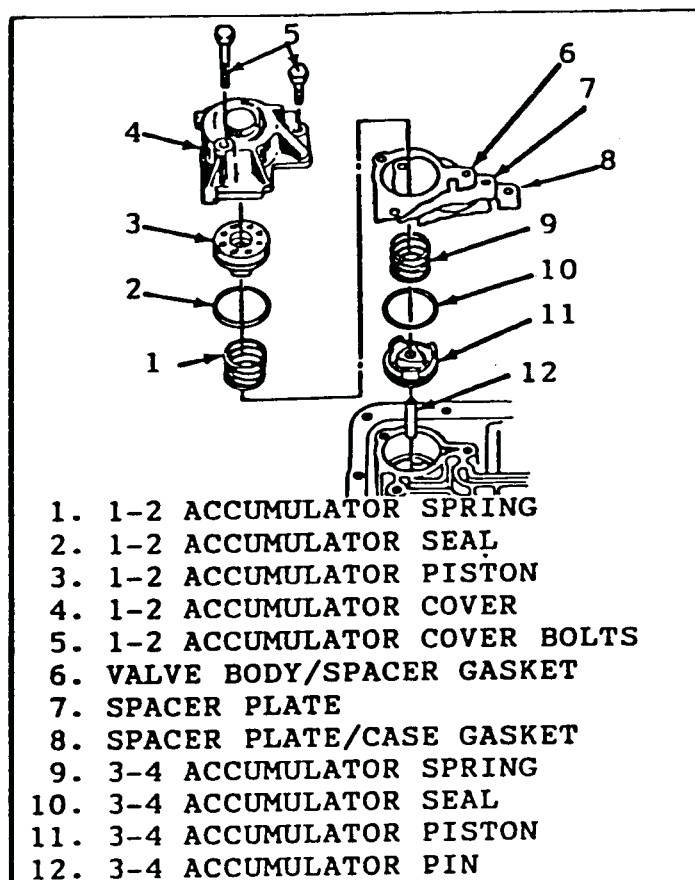

Figure 108
17. Install the 1-2 accumulator piston into the bore of the 1-2 accumulator housing, with the 3 legs of the piston facing you as you install it (See Figure 108).